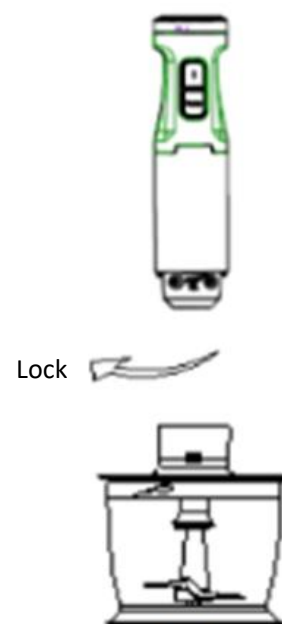

Fig. 3
5. Insert the motor unit into the hole of the chopper lid and turn in clockwise direction to lock (see Fig.3).